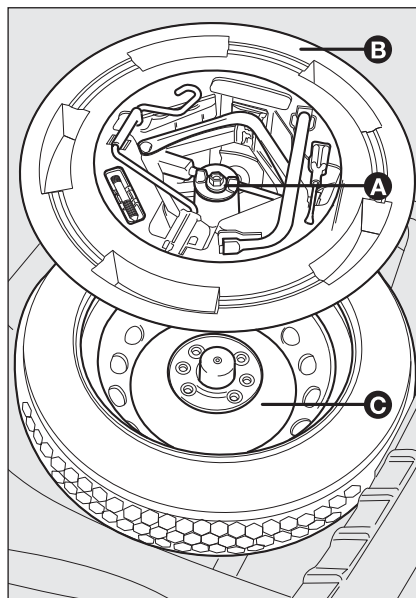

fig. 10
- ☐ Loosen the clamping device A-fig. 10;
- ☐ Take out the tool container B-fig. 10 and take it near to the wheel to be changed;
- ☐ Take the spare wheel C-fig. 10;